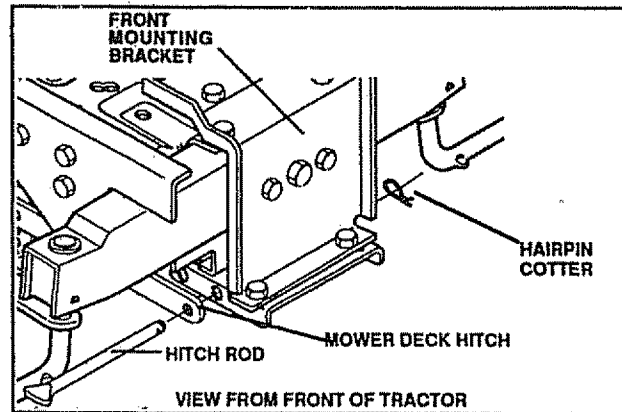

FIG. 18
- Remove hairpin cotter from mower deck hitch and remove deck hitch rod from front hole of the front mounting bracket (see FIG. 18).